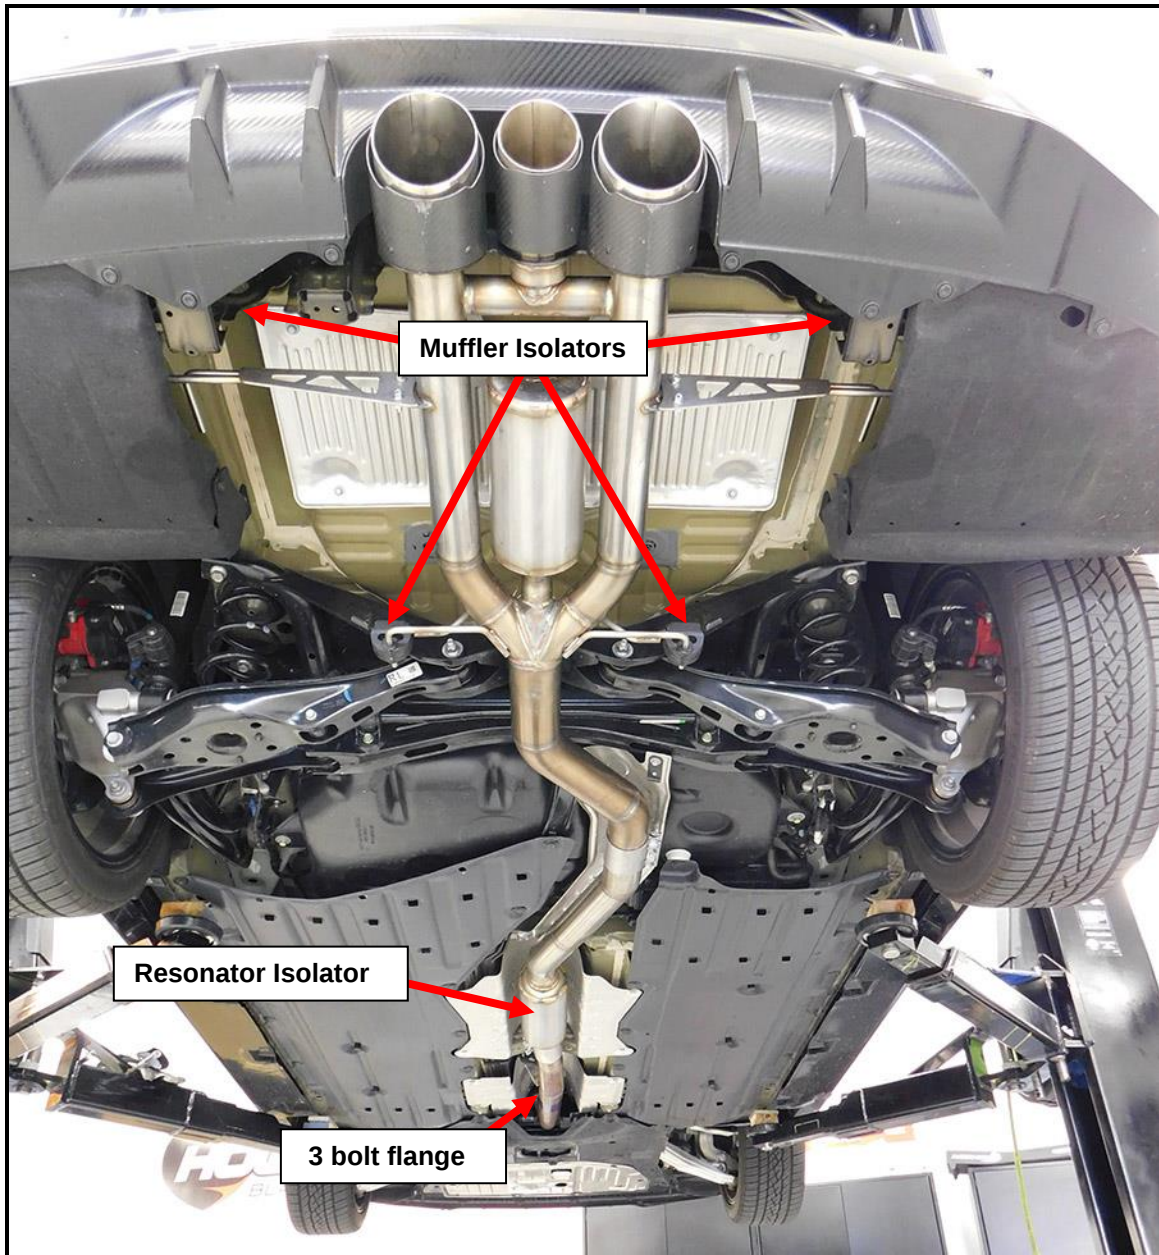

Figure 1
3. Remove the (x4) isolators at the mufflers and the isolator on the resonator (**Figure 1**).
4. Remove the (x3) 14mm nuts at the flange that connects the mid pipe to the cat-back exhaust (**Figure 1**).